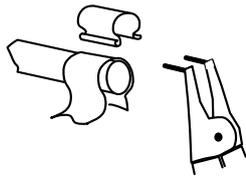

Fig.5. - Use of Clip Tool
*Replacements: make a note of the actual braid and cable connections to the elements. From rod elements disconnect the clips with the special tool provided (or with finger pressure, depending on the type of clip fitted), lift off the braids and carefully withdraw each element. See fig.5.*